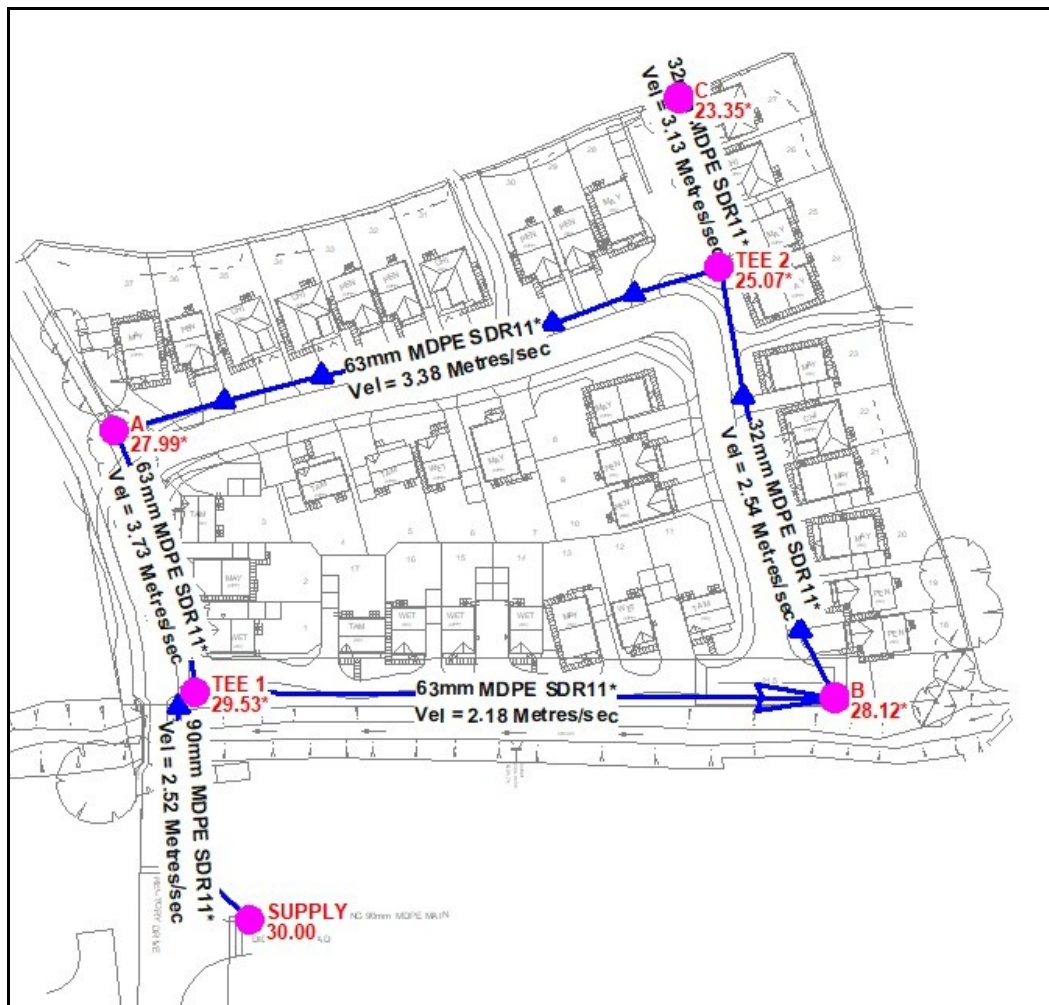

Figure 6
The pressure values, flow directions, and pipe sizes should be similar to those shown in Figure 6.
- As a result of the “hand-drawn” pipe segments, each example model is created slightly different. Therefore, the results will be slightly different for each model. However, the results should be similar to those shown in Figure 6.